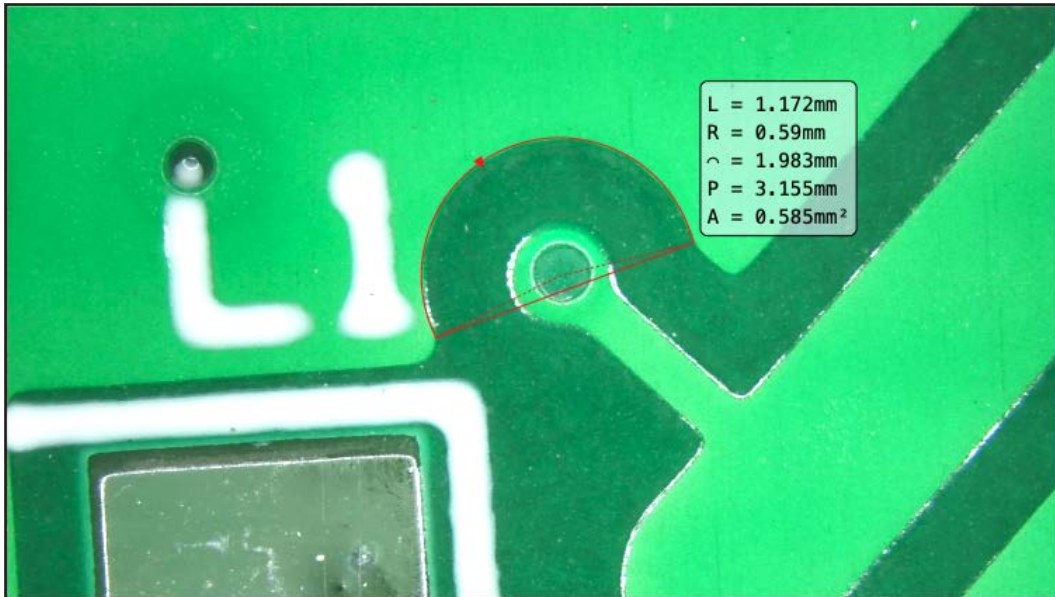

Figure 5-7 Example of arch measurement
- (5) Arch: When you want to measure the arch  shape, you can use the tool, as shown in Figure 5-7. First press the first point on one side of the side you want to measure, then press the second point on the other side, and then move the slider. Press the mouse until the measurement pattern matches the observation object and press the third point to fix it. The pattern will extend from the first point to the second point in the counterclockwise direction. You can know the relevant measurement information of the arc and the measured radius. The string length is 0.59mm, the string length is 1.172mm, the bow length is 1.983mm, and the circumference is 3.155mm.